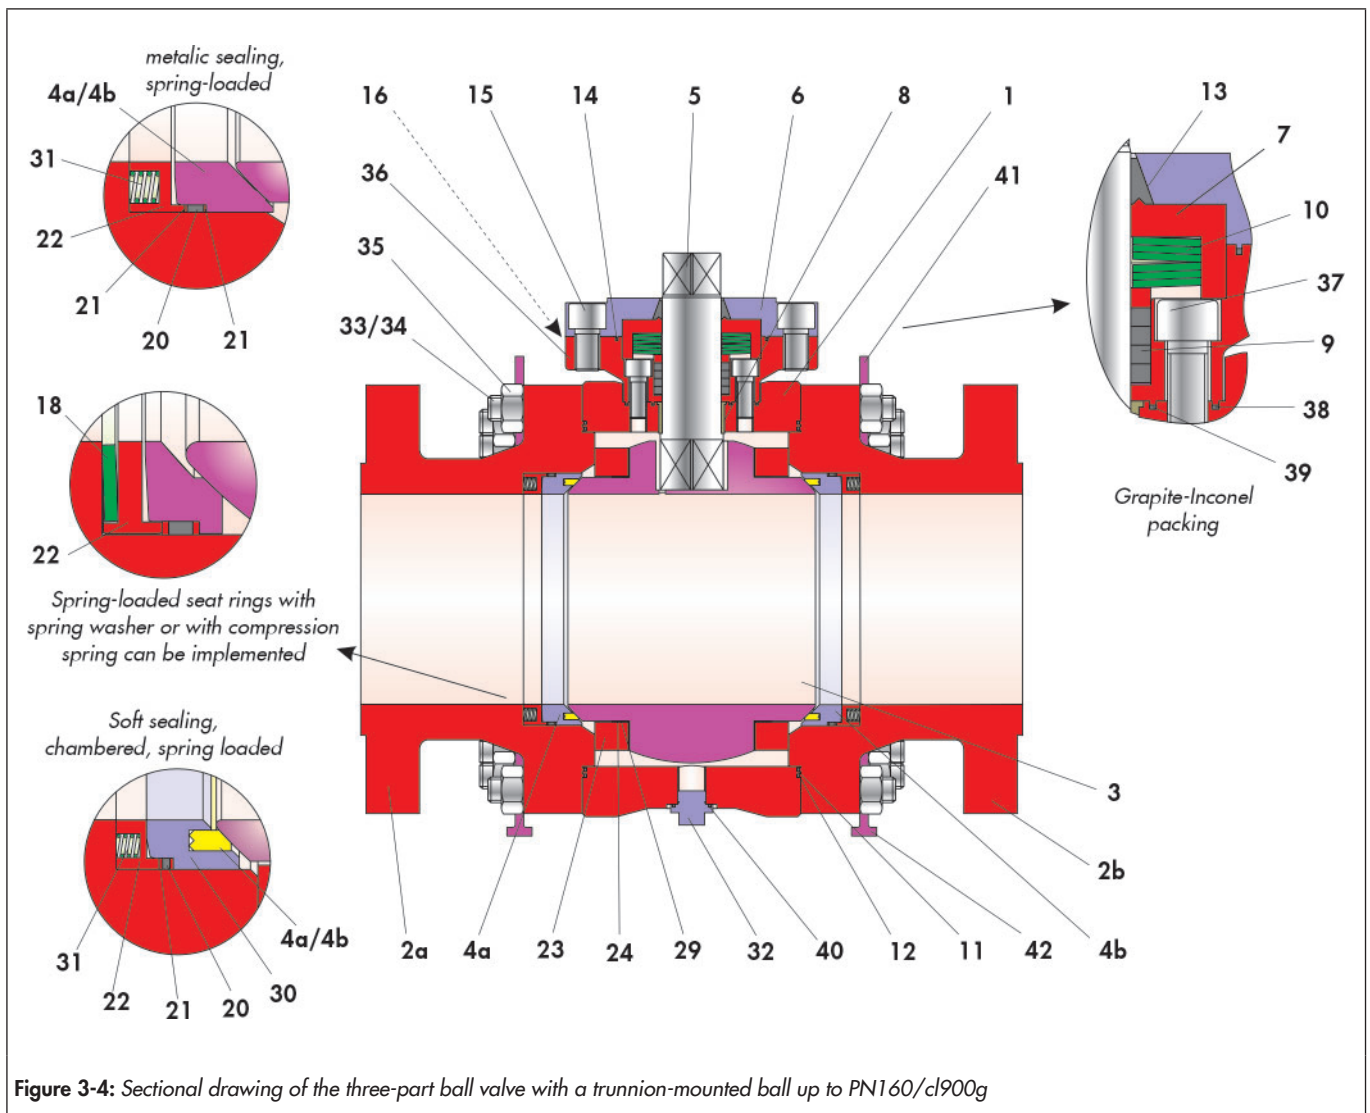

Figure 3-4: Sectional drawing of the three-part ball valve with a trunnion-mounted ball up to PN160/cl900g
The position and arrangement of the individual parts shown in Figure 3-4 must be observed during assembly.
- ⇒ *Do not damage the sealing surface of the switching shaft (5).*
- ⇒ Position the bearing bushing (8) with the switching shaft (5) into the ball support (3) without twisting it.
- ⇒ Insert the carbon-graphite rings (38) and (39) into the corresponding recesses on the upper switching shaft duct in the base body (1).
- ⇒ Place the dome (36) on the base body (1) and tighten with the screws (37) evenly and in a criss-cross pattern.
- ⇒ Push the V-ring packing or graphite packing (9) with a slight rotation movement over the assembled switching shaft (5) and insert it into the packing space of the dome (36). Arrangement of the V-sleeves see Figure 3-4.
- ⇒ Place the set of spring washers (10) on the packing (9). Arrangement of the spring washers, see Figure 3-4.
- ⇒ Push the bushing (7) over the switching shaft (5) such that they lie on the spring washers (10) and centre them.
- ⇒ Push the carbon-graphite ring (13) carefully over the switching shaft (5) up to the bushing (7).
- ⇒ Insert the carbon-graphite ring (14) into the groove of the stuffing box flange (6).
- ⇒ Place the stuffing box flange (6) over the switching shaft (5) onto the base body (1).
- ⇒ Lightly grease the screws (15).
- ⇒ Adjust the stuffing box flange (6) with the screws (15).